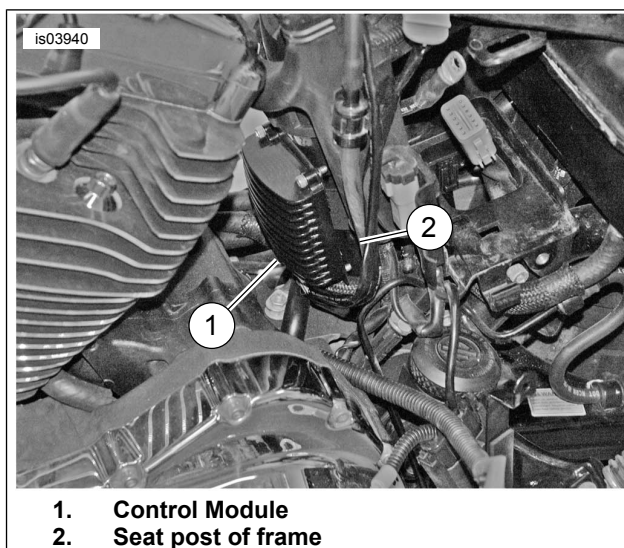

Figure 3. Install Control Module to Motorcycle Frame
- See Figure 3. Install the Control Module (1) to the frame seat post (2) as shown.